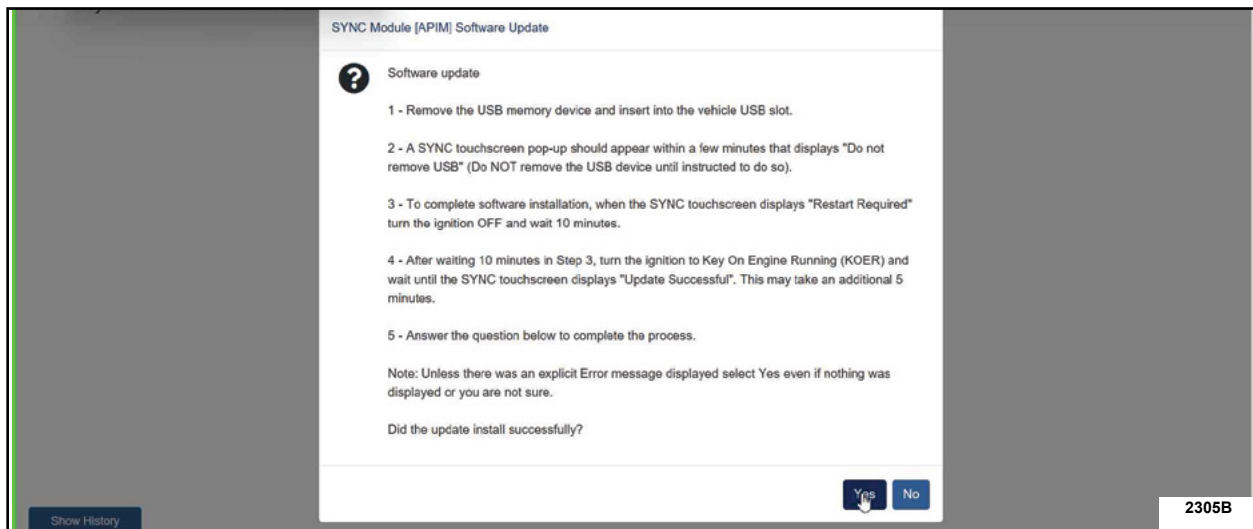

FIGURE 2
33. Return the USB thumb drive to the FDRS and follow the on-screen prompts carefully until the following screen is reached. See Figure 2.